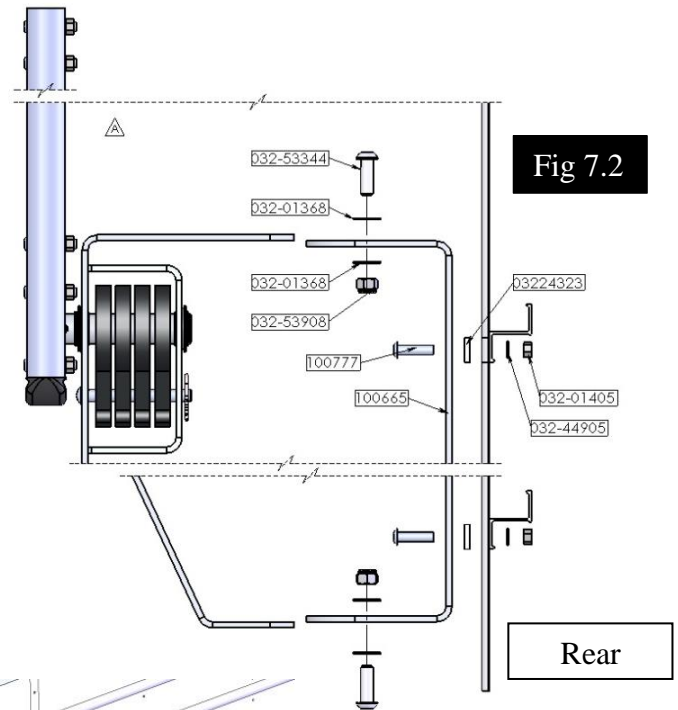

Fig 7.2
3. exIf you have a straight back trailer bolt the rear outer bracket to the inner bracket using the four 1/2" hex head bolts, lock nuts, and washers provided. Tighten the fasteners until they are snug but not tight. It will appear as shown in the figure 7.2.
4. If you have a slant nose trailer, bolt the front outer bracket on using two 1/2" bolts and nuts and washers as shown in fig. 7.2 in the lower bolt holes. Tighten the fasteners until they are snug but not tight.